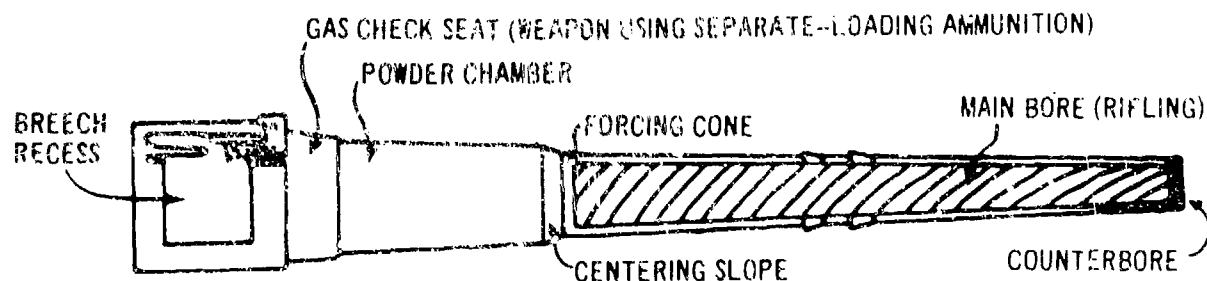

Figure 4-19. Cross section.
*e. Interior components.* The interior components (fig 4-19) of the tube are the same as those of other weapons that fire semifixed ammunition and are described below in the order of their location, from muzzle to breech.